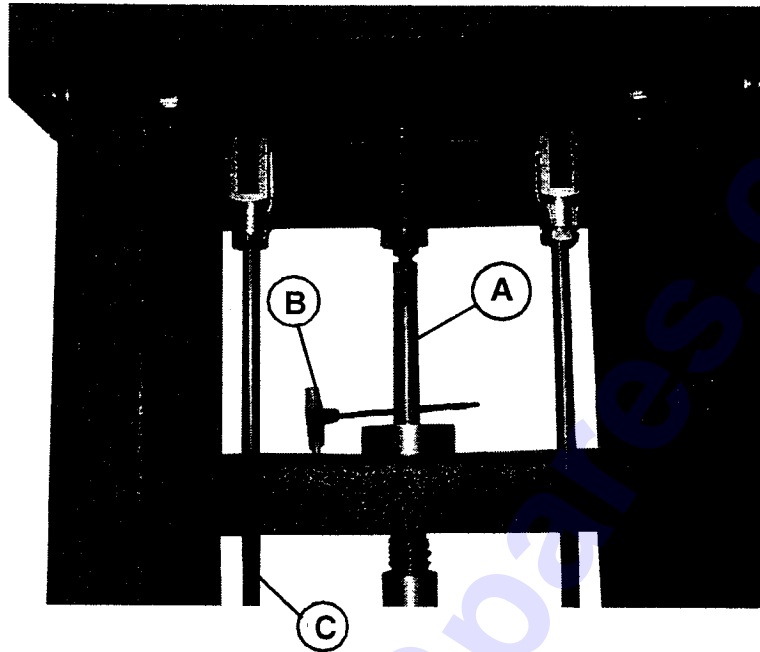

Figure 1
2. Insert a (i.e. a screwdriver or an allen wrench; detail B of figure 1) in the central rod (detail A of figure 1) appointed to the driver blade lifting in order to keep lowered the foot pedal
4. Take the D locks off the side rods (detail "C" of figure 1)